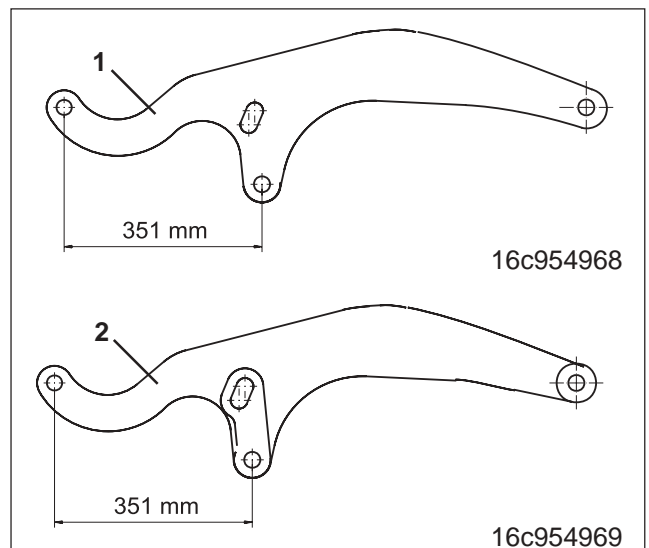

Fig. 5.3
2. Carrying arm left hand (Fig. 5.3/1) and
3. Carrying arm right hand (Fig. 5.3/2) for Tyre Packer Roller RP and Wedge Ring Roller KW 580.